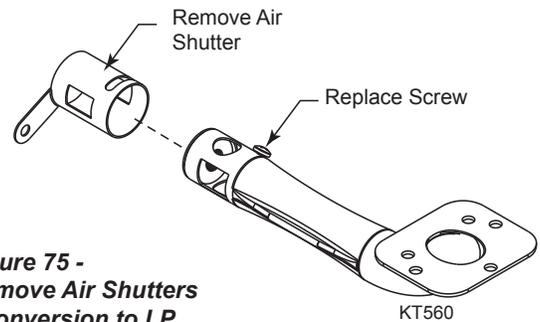

Figure 75 - Remove Air Shutters - Conversion to LP
13. **For conversion to LP:** Unscrew three (3) air shutters through lens opening and discard. *Figure 75*. **NOTE:** Replace screws.